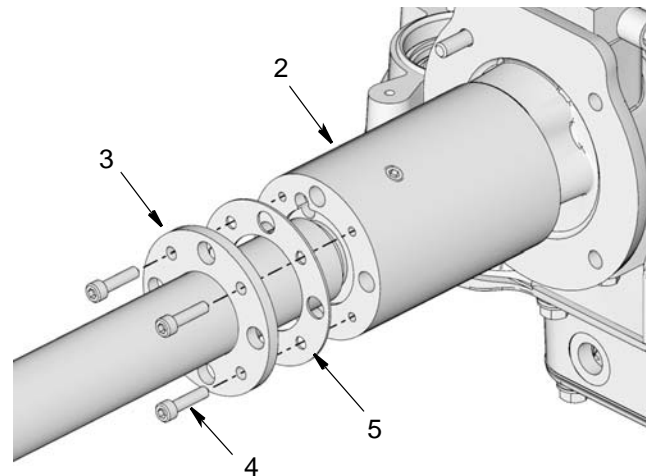

FIG. 49
25. **For Tube-In-Tube models only:** Install gasket (5) and Tube-In-Tube (3). Secure Tube-In-Tube to pump adapter (2) using screws (4). Use a socket to tighten bolts securely (FIG. 49). Torque to 7-9 ft lbs (9-12 N.m).